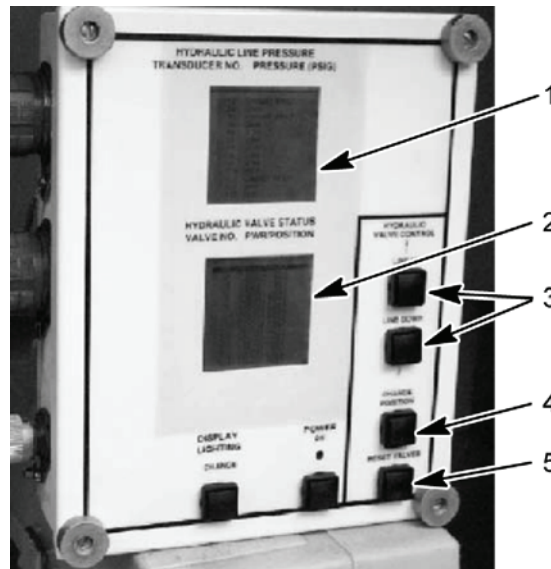

Figure 53. HDC Control Box
- Reset all HDC solenoid valves by selecting the RESET VALVES button (Figure 53, item 5) on the HDC control box.
- Using LINE UP or LINE DOWN button (Figure 53, item 3) on the HDC control box, select V5 on the HDC display (Figure 53, item 2). Using the CHANGE POSITION button (Figure 53, item 4), close V5 on the HDC display (Figure 53, item 2). Repeat steps and close V12 and V13, and open V19.
- Have assistant start engine and move SPRUNG/UNSPRUNG lever to UNSPRUNG and right-hand SUSPENSION CONTROL lever to LOWER. Read transducer T-13 hydraulic pressure on the HDC display (Figure 53, item 1).
- Using LINE UP or LINE DOWN button (Figure 53, item 3) on the HDC control box, select V5 on the HDC display (Figure 53, item 2). Using the CHANGE POSITION button (Figure 53, item 4), open V5 on the HDC display (Figure 53, item 2). Repeat steps and open V12 and V13, and close V19.